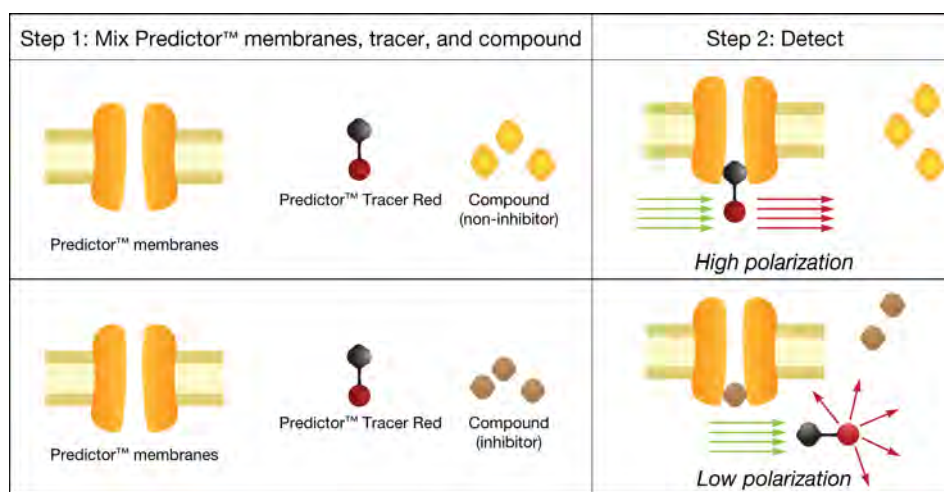

Figure 1. Competitors displace the tracer from the hERG channel protein, lowering its fluorescence polarization.
The assay kit contains all of the reagents necessary to test your compounds of interest for hERG channel binding. The assay uses a membrane fraction containing hERG channel protein (Predictor™ hERG Membrane) and a high-affinity red fluorescent hERG channel ligand, or "tracer" (Predictor™ hERG Tracer Red), in a homogenous, fluorescence polarization (FP)-based format. FP is based on the observation that when a small fluorescent molecule (the tracer) is excited with plane-polarized light, the emitted light is largely depolarized because the molecule tumbles rapidly in solution during its fluorescence lifetime. If the tracer is bound to a large molecule, then the tracer's rotation is slowed and the light remains more highly polarized. When Predictor™ hERG Tracer Red is bound by the hERG channel protein, the tracer produces a high fluorescence polarization. Compounds that bind to the hERG channel protein (competitors) are identified by their ability to displace the tracer, resulting in a lower fluorescence polarization (see **Figure 1**).